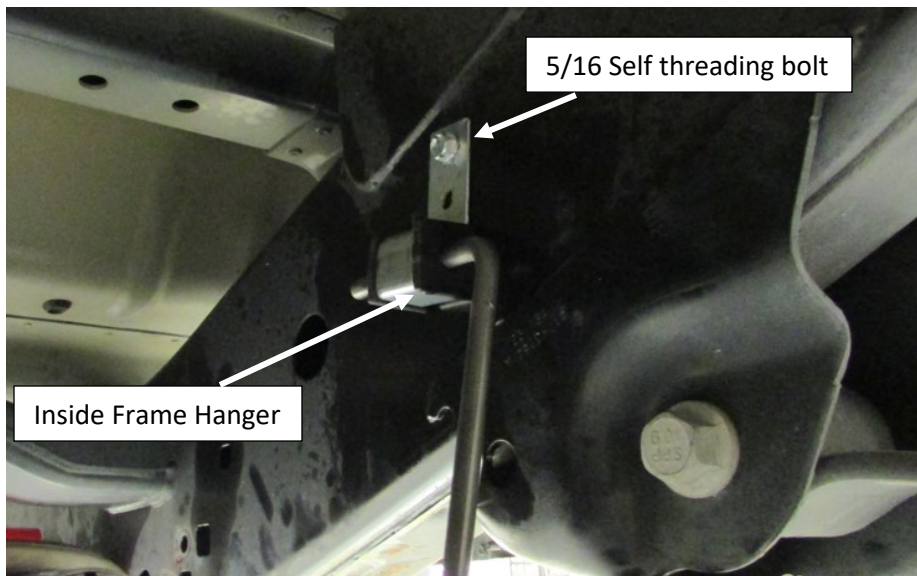

Figure.29
24. Centerpunch the center of each mounting hole of the inside hanger bracket. **Fig.29**
26. Install the (x2) supplied 5/16 self-threading bolts **Fig.29** - **Do Not use an impact driver to install the bolts.**